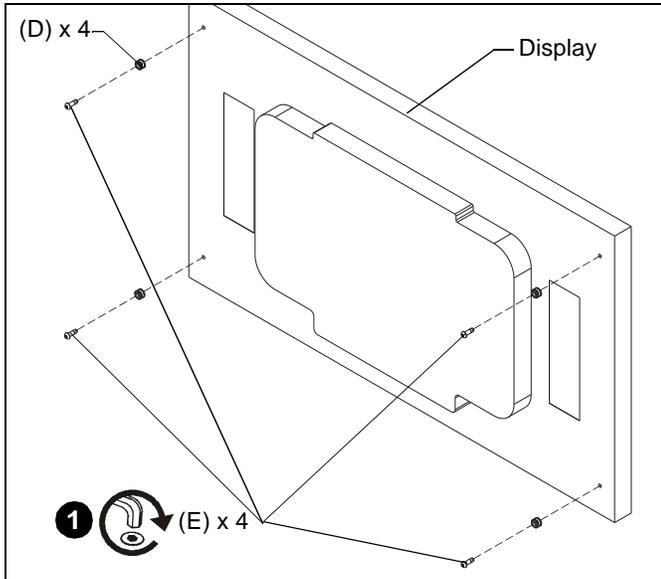

Figure 1
1. Attach four mounting buttons (D) to back of display using four M8 x 25mm button head cap screws (E). (See Figure 1)